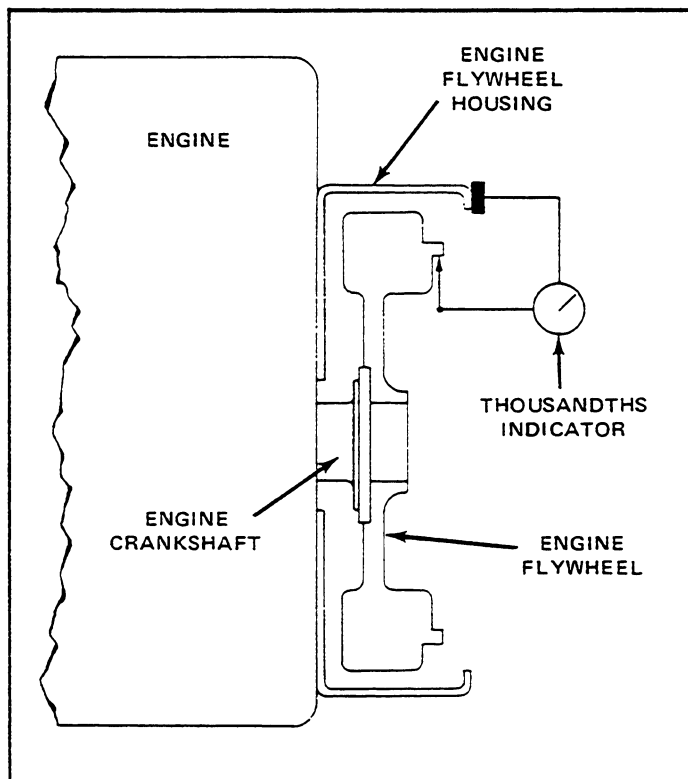
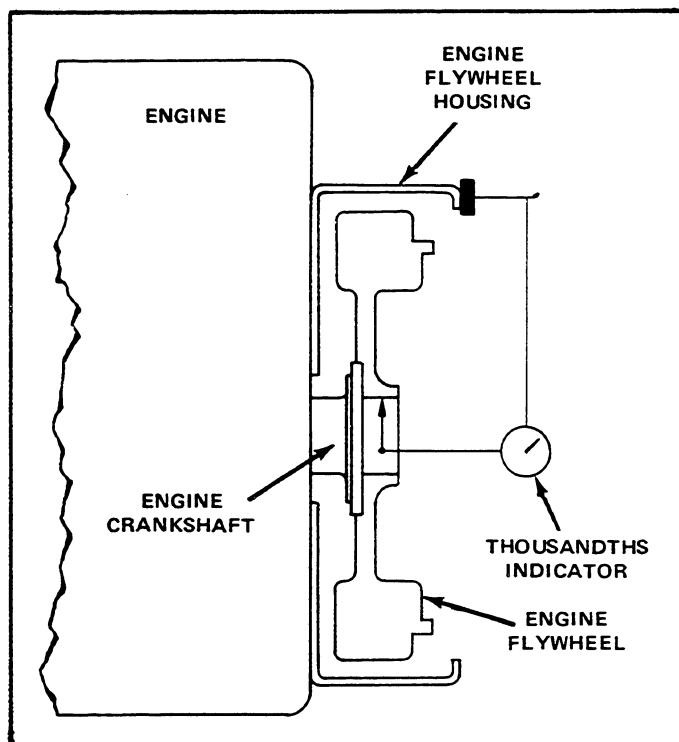

Figure 9-14. Checking the Driving Ring Pilot Bore of Engine Flywheel.
Figure 9-15. Checking Pilot Bearing Bore of Engine Flywheel.
6. With the indicator mounted as in the paragraph above, adjust the indicator stem so that it will ride on the driving ring pilot bore of the engine flywheel. See Figure 9-14. Rotate the flywheel. The driving ring pilot bore eccentricity of the engine flywheel should not exceed 0.005 inch maximum total indicator reading. Thrust on the flywheel should be in one direction at all times to obtain a correct reading.
7. Readjust the indicator so that the stem will ride on the pilot bearing bore of the flywheel. See Figure 9-15. Rotate the flywheel. The eccentricity of the pilot bearing bore should not exceed 0.005 maximum total indicator reading. Eccentricity between the driv-
ing ring pilot bore (Figure 9-14) and pilot bearing bore (Figure 9-15) should not exceed 0.008 inch total indicator reading.